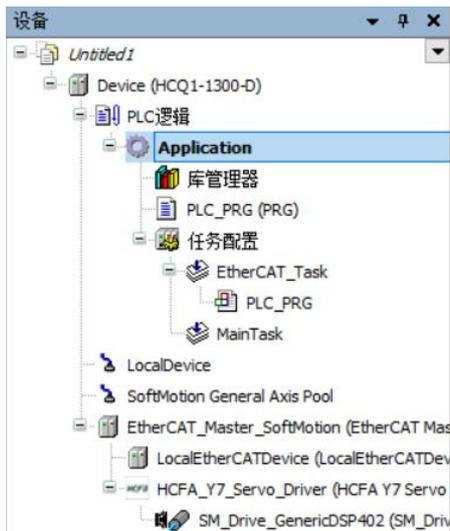

Figure 13-15 Adding EtherCAT POU
9. Put [PLC\_PRG] at ① to [EtherCAT\_Task] at ②, as shown in Figure 13-15.